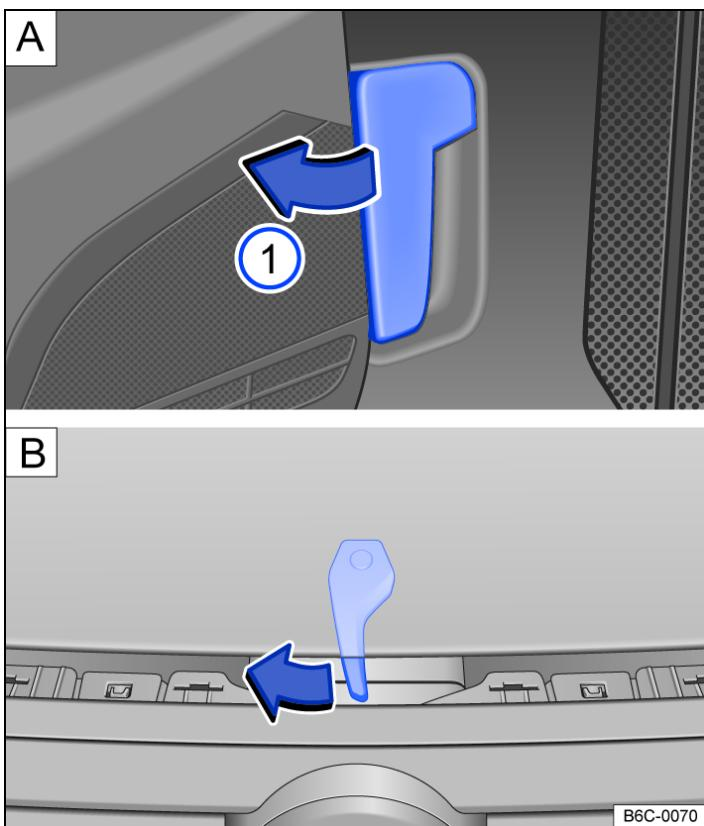

Fig. 1 **A** In the footwell on the driver side: release lever for the bonnet. **B** Above the radiator grille: bonnet opening lever.
- Open the driver door and pull the release lever in the direction of the arrow → *Fig. 1 A*. The bonnet is released from the lock carrier catch by spring force → .
- Lift the bonnet slightly and at the same time press the opening lever in the direction of the arrow → *Fig. 1 B* to fully open the bonnet.